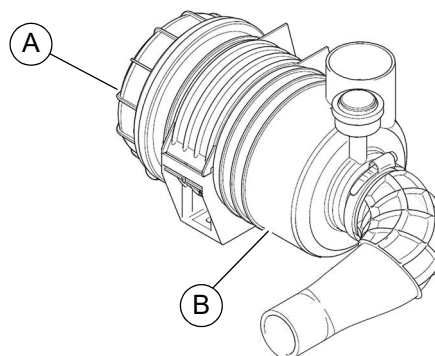

Figure 5-22. Disassemble Air Cleaner—2.2L Engine
1. See Figure 5-22. Release three buckle clasps from end cap (A) of air cleaner canister (B). Remove end cap.